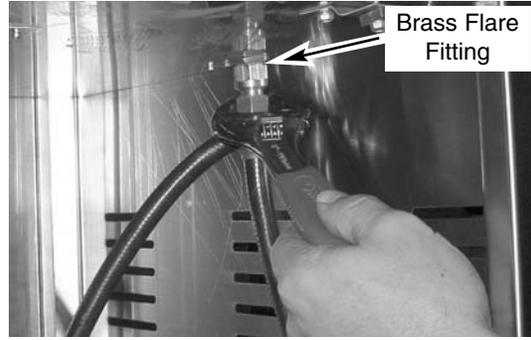

Fig 20
1. Remove the hose from the brass flare fitting using an adjustable wrench. Located inside the cart on bottom of grill head (Fig. 20).